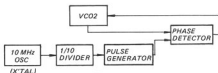

Fig. 6
Accordingly, the circuitry of the ICF-6800W is put together as shown in Fig. 6, in determining the oscillating frequencies of VCO2.
Fig. 6 shows a block diagram of the circuitry of VCO2. By forming another PLL to stabilize VCO2 oscillate as stable as VCO1.
b. Functions of VCO2 (refer to Fig. 6)